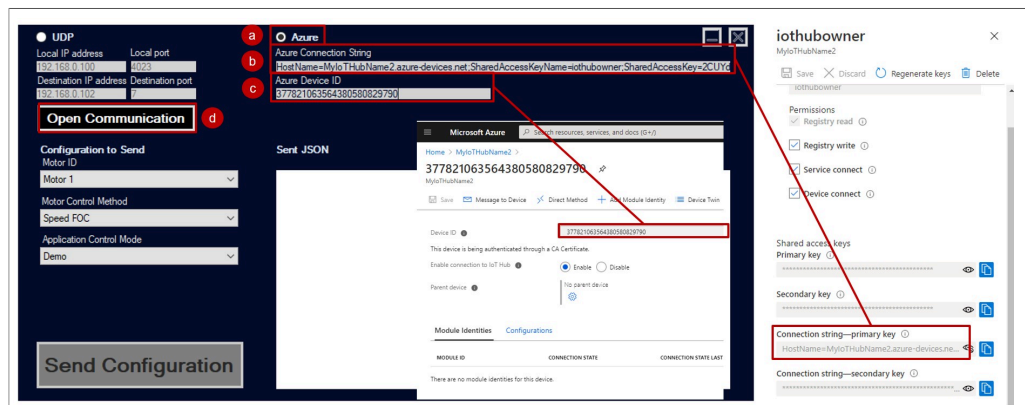

Figure 79. Run QMC JSON Exchanger Azure application
- Fill in the fields in QMC JSON Exchanger application as shown in Figure 79: